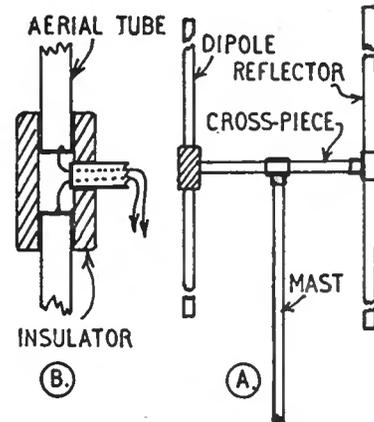

Fig. 2—Constructional Details
Fig. 2 will serve as a guide in making the aerial, if for outdoor use. Dipole and reflector tubes will, of course, be cut to suit the transmitter, from the list of dimensions given in the next article. Mast and cross-piece may be of metal tubing, and can be joined by T-pieces such as used for plumbing. Or they may be bolted, welded, or fixed together in any way which is convenient. The cross-piece is of such a length as to provide the specified separation between dipole and reflector.
An insulator is required at the dipole end. This can consist of a stout insulating tube about 4ins. long, into which the rods are forced. Joints can be sealed by paint to prevent rain entering. The ends of the feeder should be soldered to the dipole elements before fitting them in place. (B) in Fig. 2 shows this.